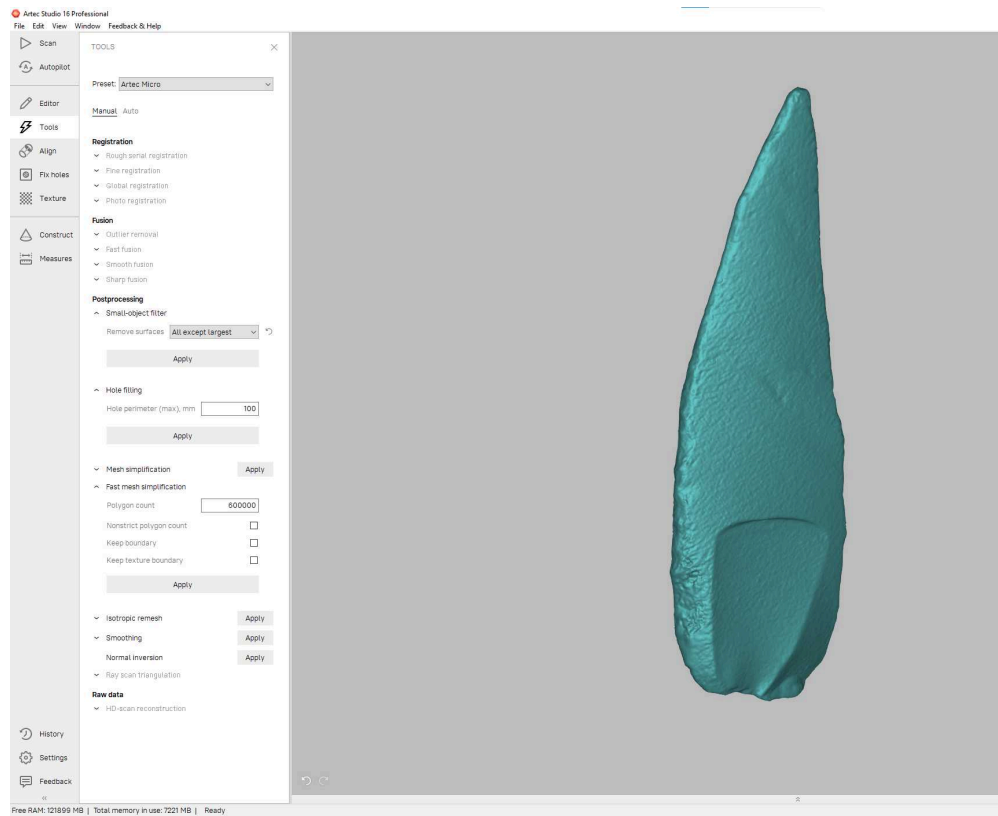

Fig. 14. Postprocessing steps suggested to increase the accuracy of the mesh.
- 22 I recommend running a few postprocessing algorithms to increase the quality of the mesh (Fig. 14).
- 22.3 Finally, run the *Fast mesh simplification*. In this example, I used 600,000 polygons (Fig. 14). There is not an ideal number of polygons to be used. Experiment with different values and visually assess how the quality of the mesh is affected, trying to keep all important features unaltered.